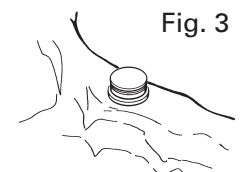

Fig. 3
3. Insert a Locator Cap with Black Processing Male (636070 Package) into each Locator Implant Abutment, leaving the White Block-Out spacer beneath it (Fig. 3). The Black Processing Male will maintain the overdenture in the upper limit of its vertical resiliency during the processing procedure.